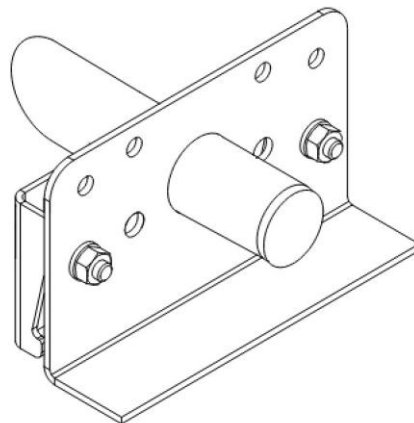

Figure 3.
- Make sure that the L- and RP-bracket parts are in the position shown in the figure (Figure 3).